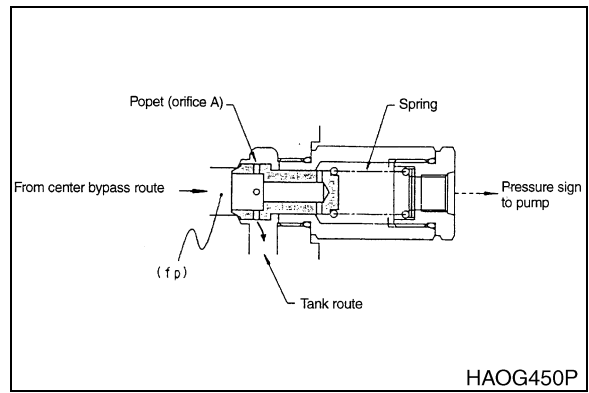

Figure 22
1. Oil from center bypass route flows to tank route through orifice (A, Figure 22) of poppet. The pressure (f_p) generated by flow passed through orifice is fed back to the pump to control the discharge volume by the pump.